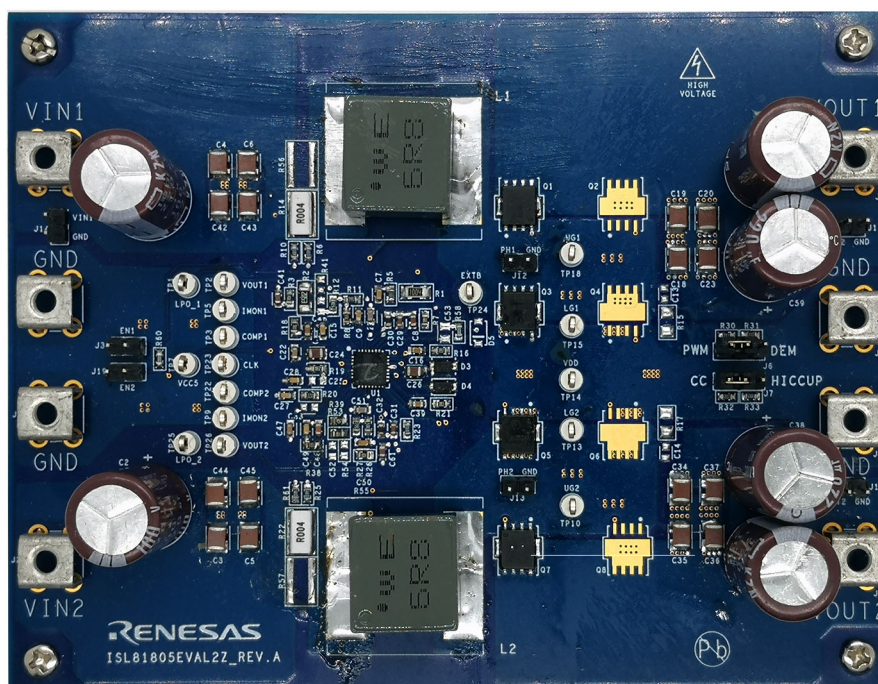

**Figure 2. Proper Probe Setup to Measure Output Ripple and Phase Node Ringing**
5. Use an oscilloscope to observe output voltage ripple and phase node ringing. For accurate measurement, see Figure 2 for the proper test setup.